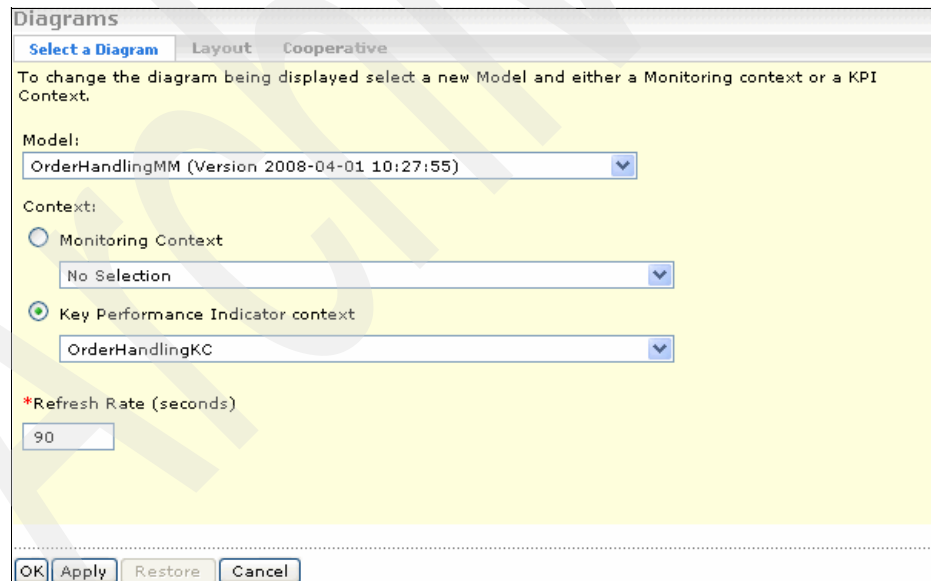

Figure 8-152 Selecting the KPI context diagram
- a. In the Select a Diagram page (Figure 8-152), for Model, select **OrderHandlingMM**. For Context, select **Key Performance Indicator context**, and then select **OrderHandlingKC**.